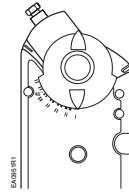

Figure 11.
- e. Place the position indicator to the "0" position on the outside scale. See Figure 11.
5. Remove the shaft adapter and insert it with the position indicator pointing to the mark on the scale calculated in the previous step. See Figure 11.